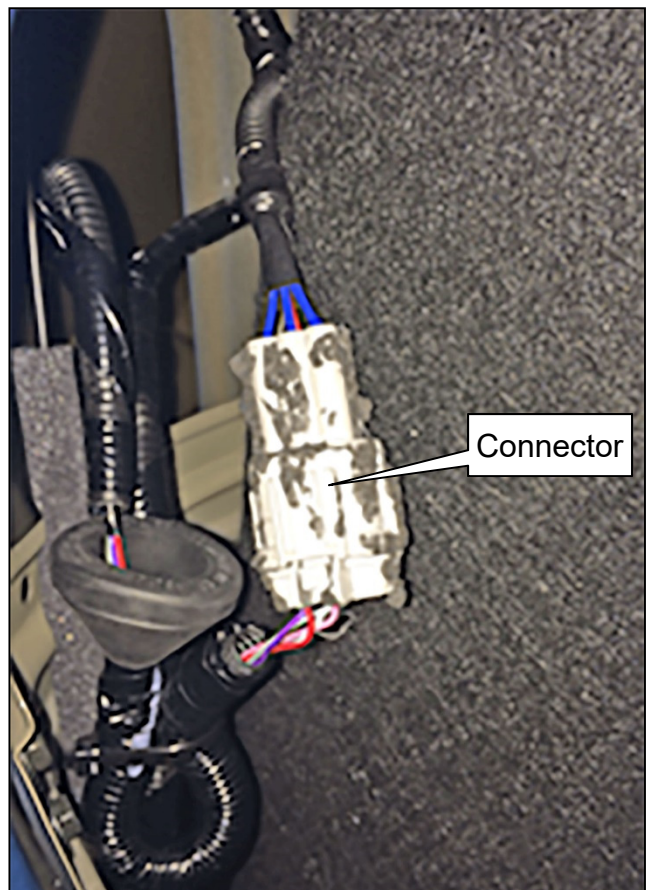

Figure 14
**NOTE:** Figure 14 shows the connector with foam and "wire tie" removed.